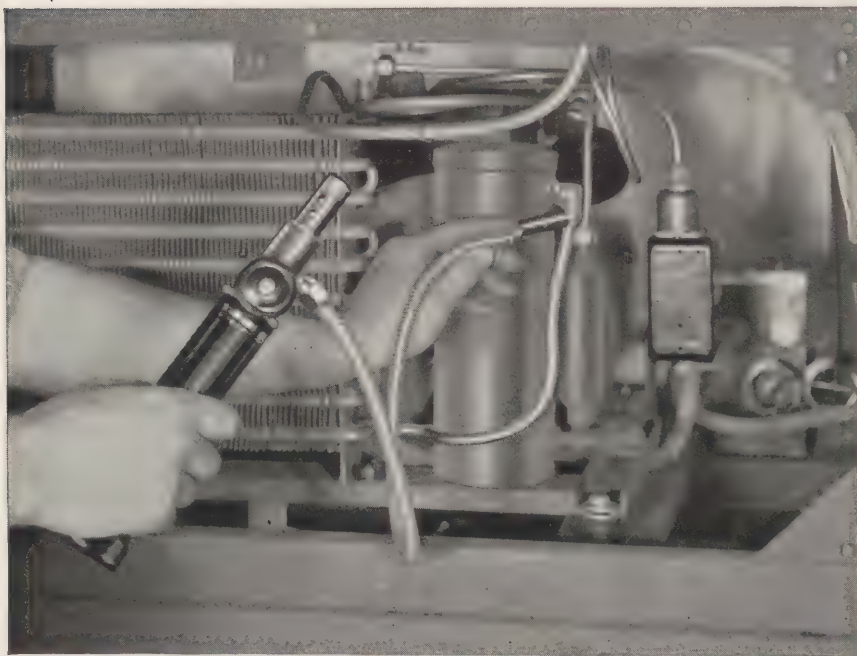

Figure 17. Testing for leaks.
- (1) Permit the detector to burn 2 or 3 minutes with a low flame.
- (2) Adjust the flame by regulating the valve hand wheel making the flame visible but not flaring out at the top and sides of the burner tube.
- (3) Pass the rubber end of the sampling hose over the refrigeration system (fig 17). When the hose comes in contact with a leaking part or connection, the Freon 12 refrigerant is drawn through the hose and turns the flame to a bright green. When the leaking refrigerant is no longer drawn into the sampling hose the flame resumes its blue color. The sampling hose then has passed beyond the leaking connection or part from which the refrigerant is escaping.
- (4) When testing for very small leaks, throttle the flame to produce a more sensitive reaction.
- (5) To extinguish the detector, close the regulating valve by turning hand wheel to a firm right seat and permit to cool.
- (6) The detector will normally require filling after 45 minutes of operation.